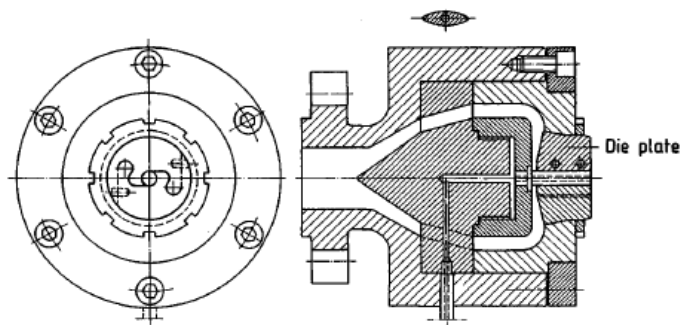

Figure 4: Profile extrusion die – Plate die
- (6). (a). Figure 4 displays technical drawings of a profile extrusion die. The diagram shows that the die consists of multiple assemblies and this type of extrusion die is called plate die.